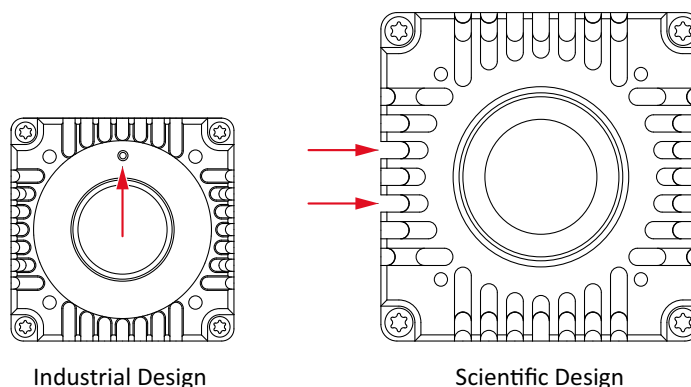

Figure 71: Position of safety screws on mount adapters for Goldeye G/CL
Mount adapters for Goldeye cameras are secured with locking screws, see Figure 71. These locking screws must be loosened before removing mount adapters.
- Loosen the locking screw (2, shown from back of adapter) on the outside of the mount adapter. See Figure 71 on page 260 for the position of the locking screws.
2. Unscrew the adapter (1) from the camera:
- Loosen the locking screw (2) on the outside of the mount adapter. See Figure 71 on page 260 for the position of the locking screws. Use a 1.3 mm hex key for **Goldeye G/CL-008 Cool TEC1, G/CL-032 Cool TEC2** models. Use a 0.9 mm hex key **for all other models**.